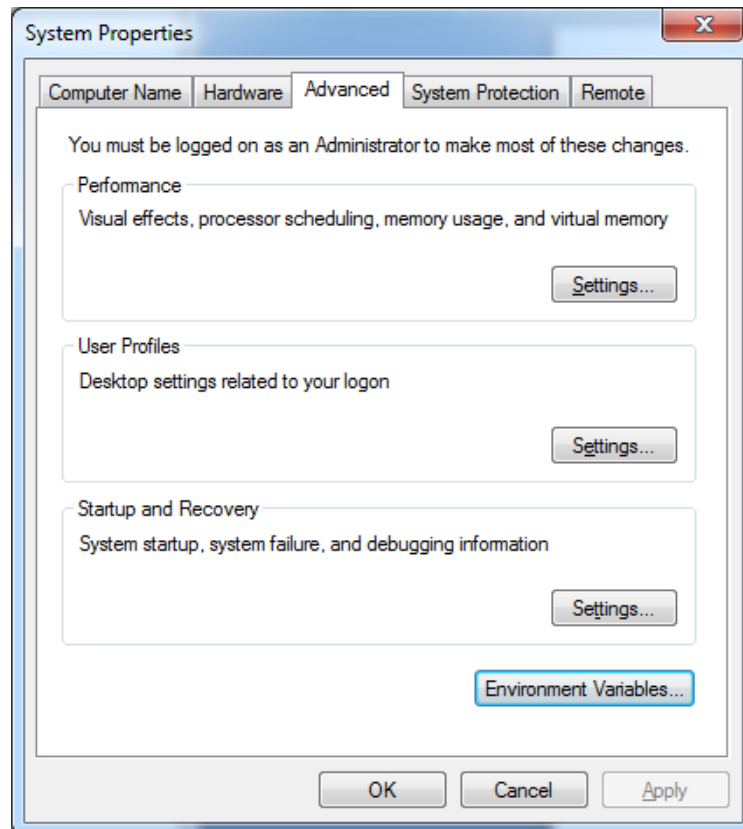
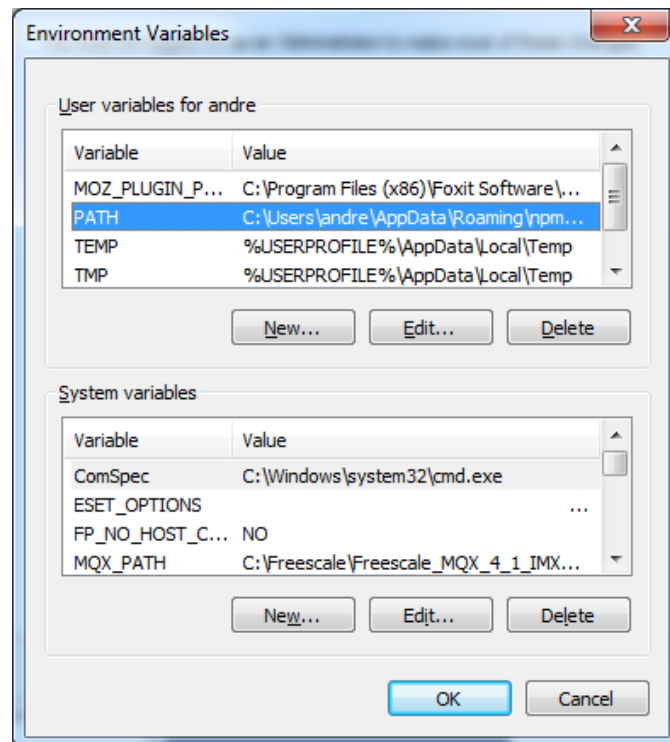

Figure 14 - System Properties in Windows
Figure 15 - Environment Variables in Windows
- To permanently add MinGW to PATH open System properties by (this applies for Windows 7) right clicking on Computer in an Explorer window and then select Properties. Click “Change settings” and then the Advanced tab as shown in Figure 14. Click on the “Environment Variables” button and edit the PATH variable as shown in Figure 15.
- a. Click the "New" button below "System variables" as seen in Figure 15.